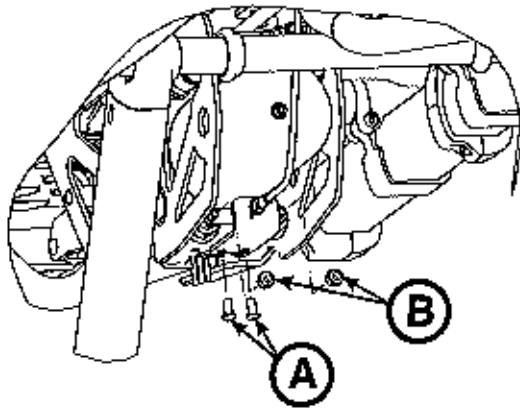

Figure 56
3. Using a T27 Torx driver, remove the two button head cap screws (A) that secure the manual release cable bracket to the bottom of the hydraulic subassembly (Figure 56).
5. Using a 7/16" combination wrench, remove the Nylock hex nut (B) from each of the valve stems (Figure 56).